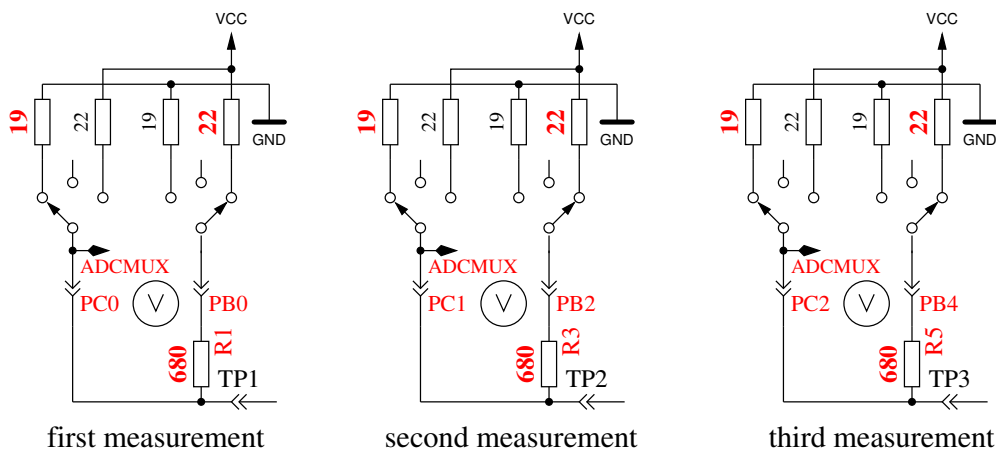

Figure 5.33: Measurement of internal resistance of Port C switched to GND
5. **This step tests the capability of GND (-) connected 470kΩ resistors (H) to pull the test pins to GND.** Row 1 shows the text “RH-”. Row 2 should display zero for all three pins.
6. **This step tests the capability of VCC (+) connected 470kΩ resistors (H) to pull the test pins to VCC (+).** Row 1 shows the text “RH+”. The best value for this three measurements is 5001. Great differences from the best value for test 5 and 6 are errors such as isolation problem, flux material or damaged port.
7. **Measuring of internal resistance of pin output switched to the GND signal.** The text in the 1st LCD row is “Ri.Lo = (mV)”. In the second row of the LCD three voltages were displayed. The internal resistance of the port C outputs switched to GND (-) are measured with the current of to VCC (+) switched 680Ω resistors, see Figure 5.33. Only the three pins of the ADC port are measured, the resistor port B (PB0, PB2 and PB4) can not be measured without hardware modification. It is assumed that the port resistance of the different ports are nearly identical. To get the resistor values, you must divide the displayed mV values by about 7 (see test 8).